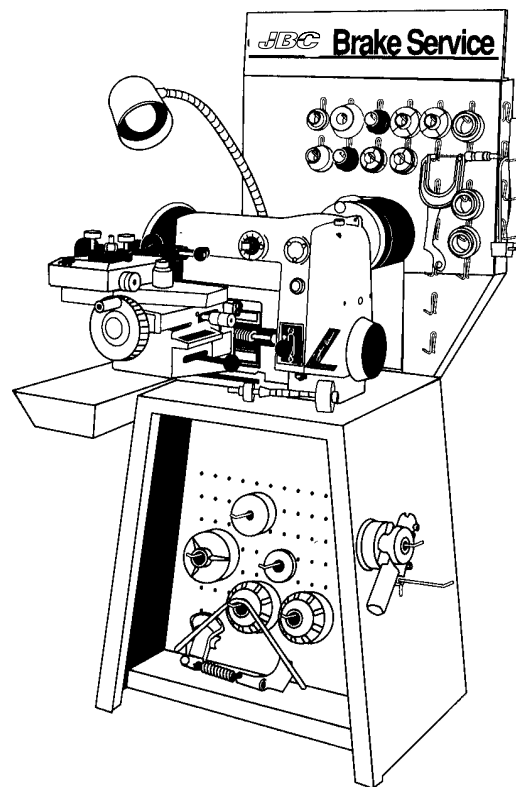

Figure 7
5. Provisions for storing adapters and accessories are incorporated with the Base. **See Figure 7.** Accessory hooks are supplied for cones, spacers, and collets. A shelf is provided for larger items.